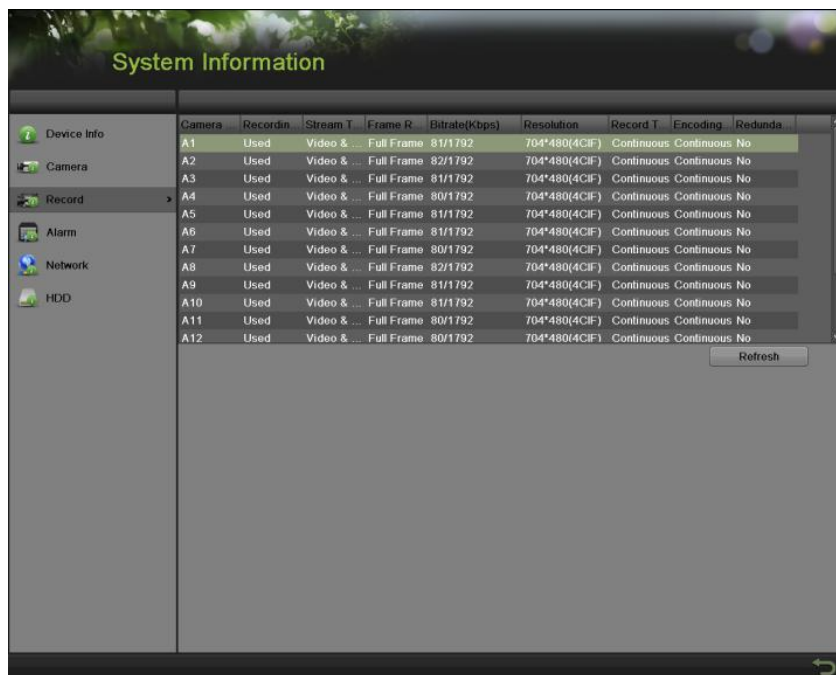

Figure 17 Record Information Menu
3. Select the Record tab to enter the Record Information menu to view the recording status and encoding parameters of each camera, as shown in Figure 17. You can click the refresh button to renew the information displayed.